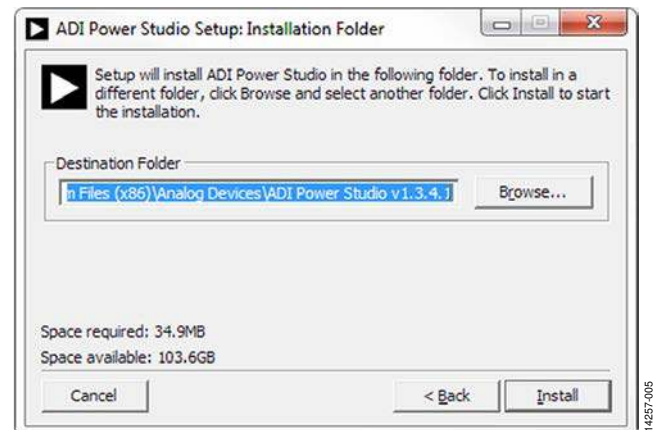

Figure 5. Installation Location
- In the **ADI Power Studio Setup: Installation Folder** window, there is an option to select a custom installation location, as seen in Figure 5. Click **Browse** to navigate to the preferred installation location (optional). Click **Install** to install the GUI onto the computer.